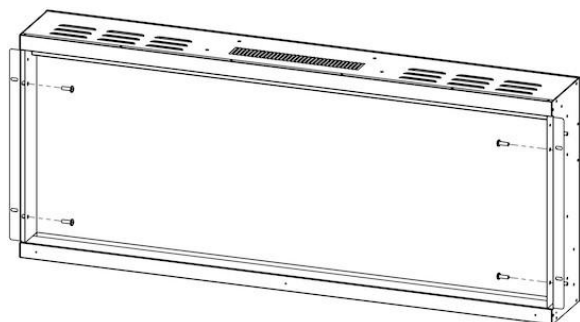

Fig. 3-1
- A. With the front glass removed, remove the four (4) screws from the internal side plates. (Fig. 3-1)